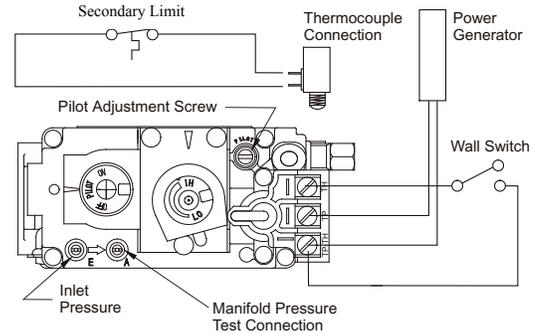

Figure 19. Sit Nova 820 gas valve.
- Have the fireplace installation inspected yearly, including a visual check of the vent system, the burner and the pilot flame. For convenience a 1/8" manifold pressure tap is supplied on the gas valve for a test gauge connection. See Figure 19.
1. Locate Pilot Adjustment Screw. (See figure 19.)
Pilot won't ignite	Disconnect remote wires and try to light pilot. If pilot now works, remote connections are faulty. Check wiring diagram figure 19 .
Main burner will not light	1. Check wiring (see figure 19) 2. Check wall switch for proper connection. 3. Check pilot burner. If extinguished: a. Allow fireplace to cool, then try to relight. b. If condition persists, call a qualified service person.